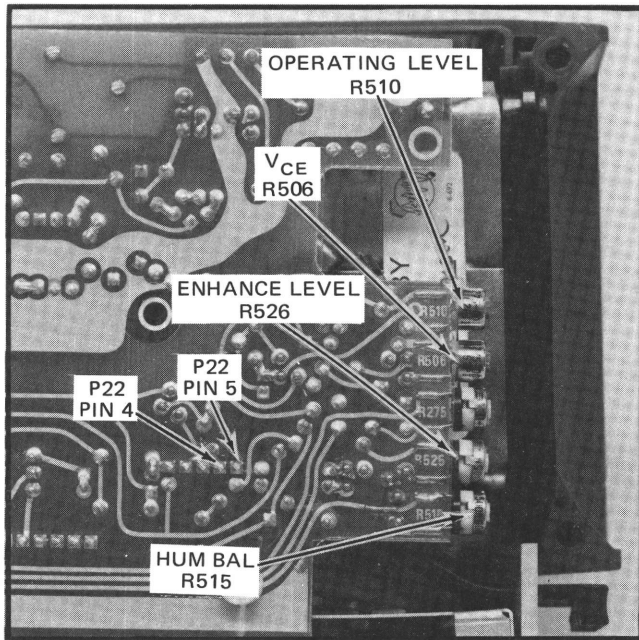

Fig. 4-4. Location of storage operation adjustments.
(1) Turn the CH 1 POS control to midrange and vertically position the two traces within the center four graticule divisions.
(2) Set the SEC/DIV switch to 5 m and turn the INTENSITY control fully clockwise.
(3) PRESET—Operating Level adjustment, R510 (see Fig. 4-4) fully counterclockwise.
(4) Connect the DC Voltmeter between pin 4 of plug 22 and ground (negative meter lead to ground) on the Power Supply (A-3) board. See Fig. 4-4.
(5) Depress the SINGLE SWP button and the STORE button.
(6) Press the ERASE button.
(7) Press the RESET button.
a. Connect the DC Voltmeter between pin 5 of plug 22 and ground (positive meter lead to ground) on the Power Supply (A-3) board. See Fig. 4-4.
b. Rotate V_{CE} adjustment, R506 (see Fig. 4-4), from fully clockwise to fully counterclockwise.
- g. ADJUST—Enhance Level adjustment, R526 (see Fig. 4-4) for the best possible display.